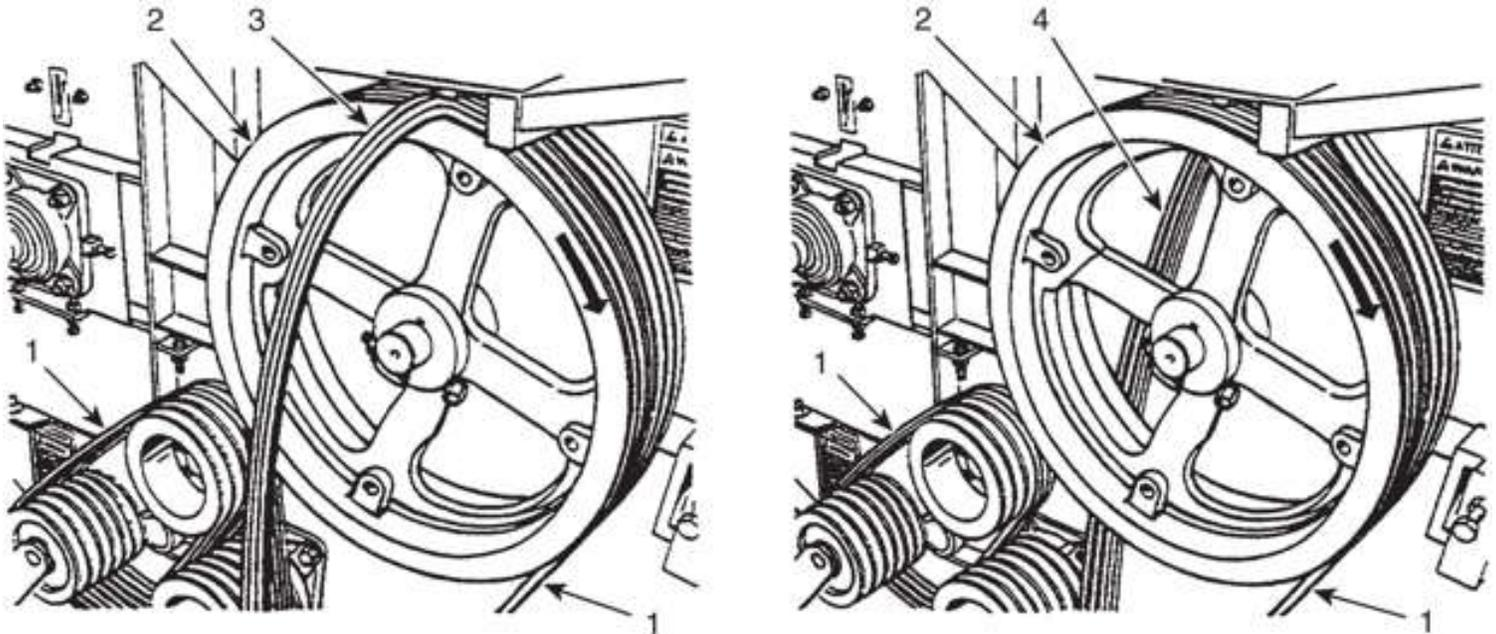

Figure 38 Removing the belts
STEP 5 - FIGURE 38
Start on the drive pulley side furthest from the machine body always rotating clockwise as shown in Figure 38 Removing the belts.